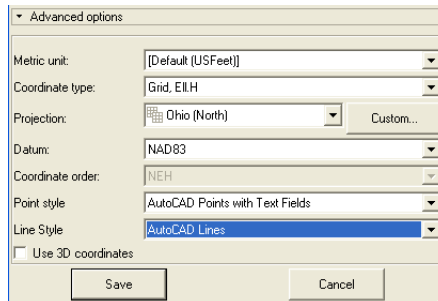

Figure B-14. Select Advance Options
2. Click **Advanced options**. Enter the parameters required after the conversion (Figure B-14):